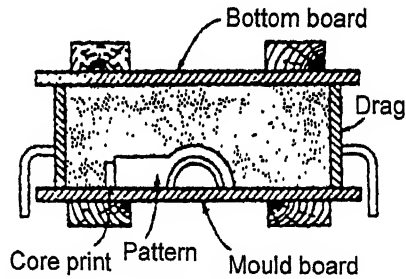
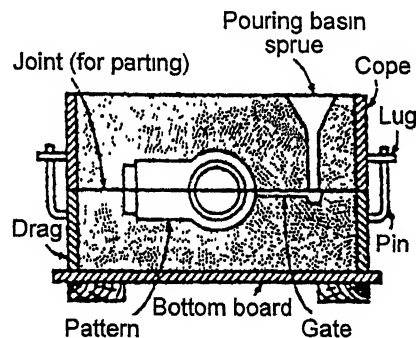

Fig. 8.14. Drag half of mould made by hand. Drag is ready to be rolled over in preparation for making the cope.
Fig. 8.15. Cope mould rammed up.
- (i) **Preparation of the pattern.** Most green-sand moulding is done with match plate or cope and drag pattern. Loose patterns are used when relatively few castings of a type are to be made. In simple hand moulding the loose pattern is placed on a mould board and surrounded with a suitable-sized flask as illustrated in Figs. 8.14 and 8.15 respectively.
- (ii) **Making the mould.** Moulding requires ramming of sand around the pattern. As the sand is packed, it develops strength and becomes rigid within the flask. Ramming may be done by hand, as in simple set up illustrated in Fig. 8.14. Both cope and drag are moulded in the same way, but the *cope must provide for the sprue*. The gating-system parts of the mould cavity are simply channels for the entry of the molten metal, and can be moulded as illustrated in Fig. 8.15.